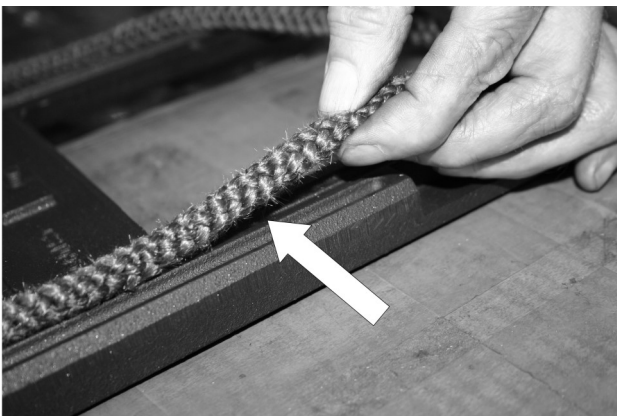

Fig. 8. Rope Replacement
- Press the rope gasket into the channel on the rear of the door casting, following the same layout as the old rope seal. See Fig. 8.
Note: Images fig 8 & 9 for reference only